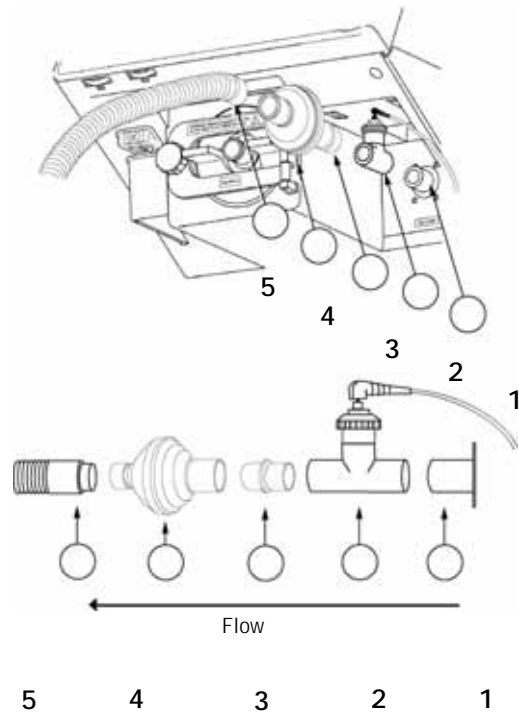

Figure 4-19: Inserting Disposable Inspiratory Bacteria Filter
The inspiratory bacteria filter (4) in Figure 4-19, mounts on the gas outlet port (1) located in the lower right corner on the front of the ventilator. If the optional O2 sensor (2) will be used, it will be connected to the gas outlet port (1) before the inspiratory bacteria filter is connected. For more information regarding the optional O2 sensor, refer to Chapter 13, "Options and Accessories".
Refer to Figure 4-19.